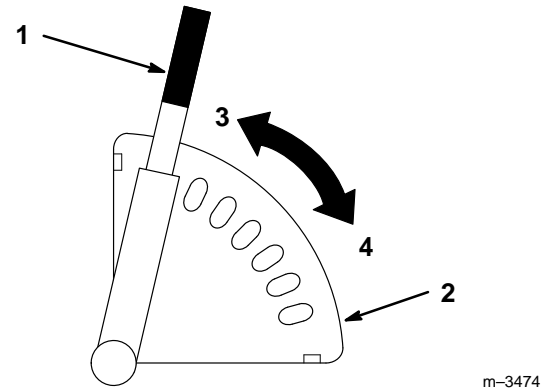

Figure 13
1. Start the tractor, apply the parking brake, and raise the deck. Get off the tractor. Pull the height-of-cut lever out to disengage it from the quadrant. Adjust the height of cut to the desired level. Release the lever inward to lock into the quadrant (Fig. 13).